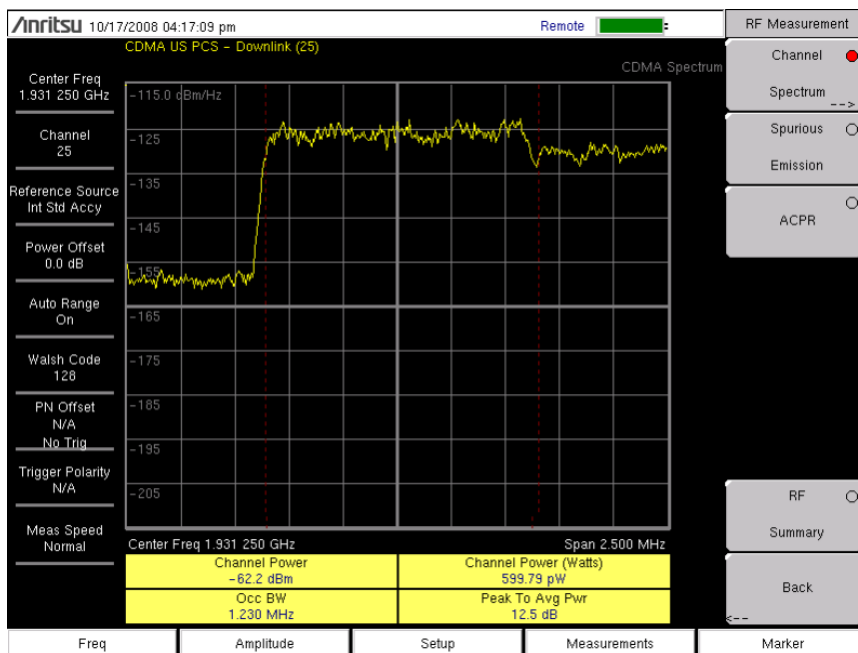

Figure 2-3. RF Measurement, Channel Spectrum
2. Press Channel Spectrum to display the active measurement (Figure 2-3).